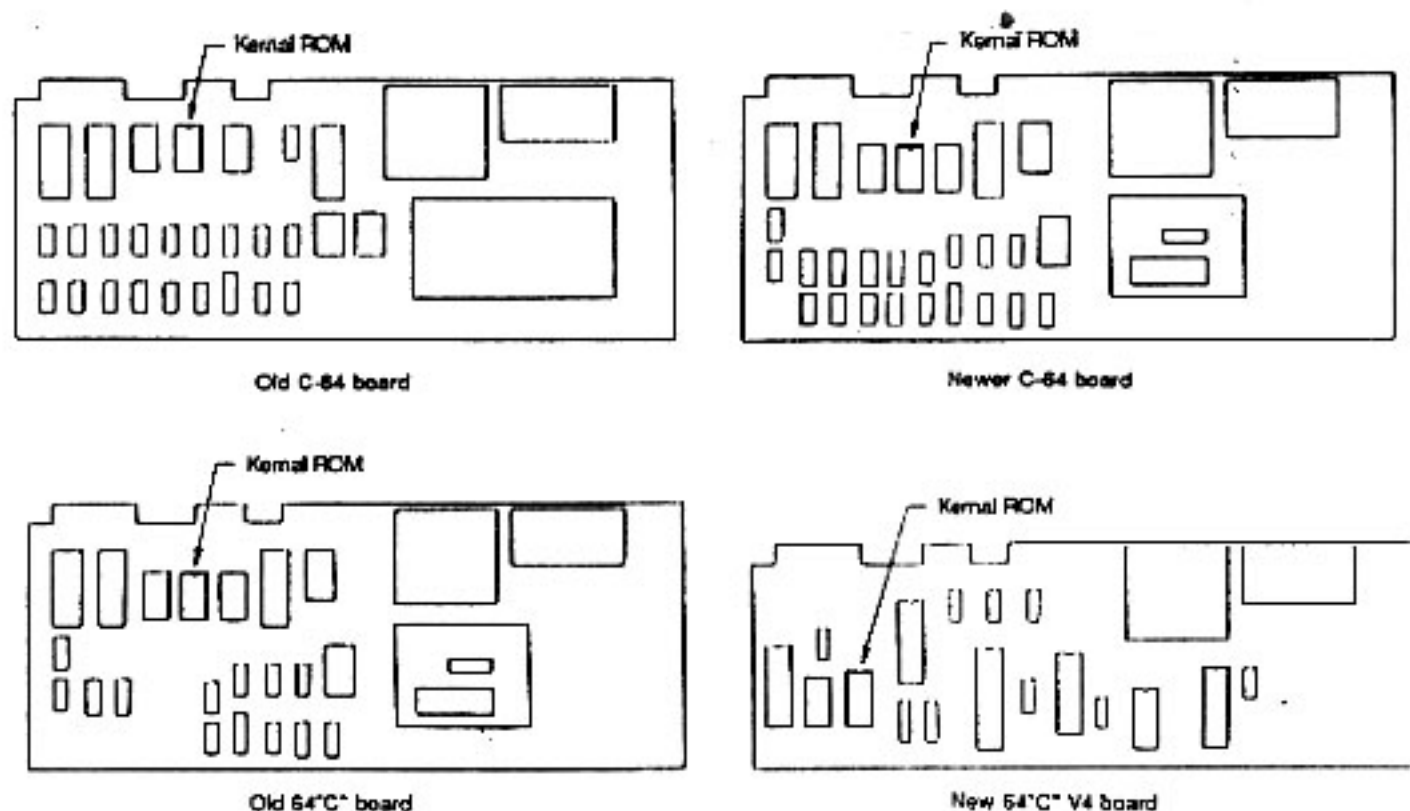

Figure 2 KERNAL ROM LOCATION
10. Locate the Kernel ROM using the diagrams shown in Figure 2 below (the Kernel ROM is the shaded IC). Note that there are four basic types of C-64 circuit boards: The "old board" present in the early 64's; a newer, slightly redesigned version; the old 64"C" board; and the new 64"C" V4 board.
64"C" OWNERS: The new "V4" circuit boards (see Figure 2) require a special JiffyDOS Kernal ROM. The JiffyDOS ROM for the older C-64 and 64"C" boards cannot be installed in the V4 board. The JiffyDOS Adapter Board for the V4 has 28 pins and is marked "KERNAL-64". The JiffyDOS Adapter for the older boards has 24 pins and is marked "KERNAL". If you have the incorrect JiffyDOS ROM, please return it to Creative Micro Designs with a note explaining your situation. Upon receipt of the ROM, we will send you the correct JiffyDOS Kernal ROM free of charge.